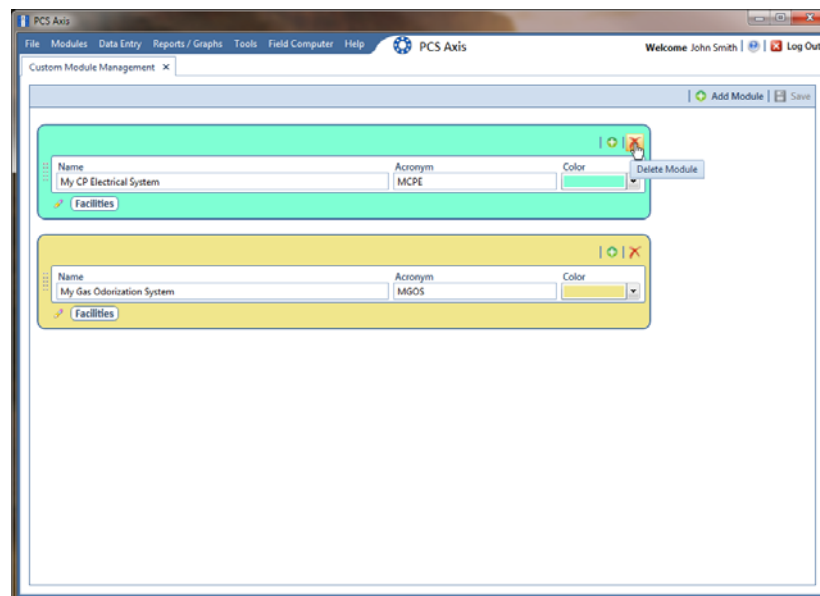

Figure 3-57. Custom Module Management
- 3 Click the  delete button for the user defined module you want to delete (Figure 3-57).